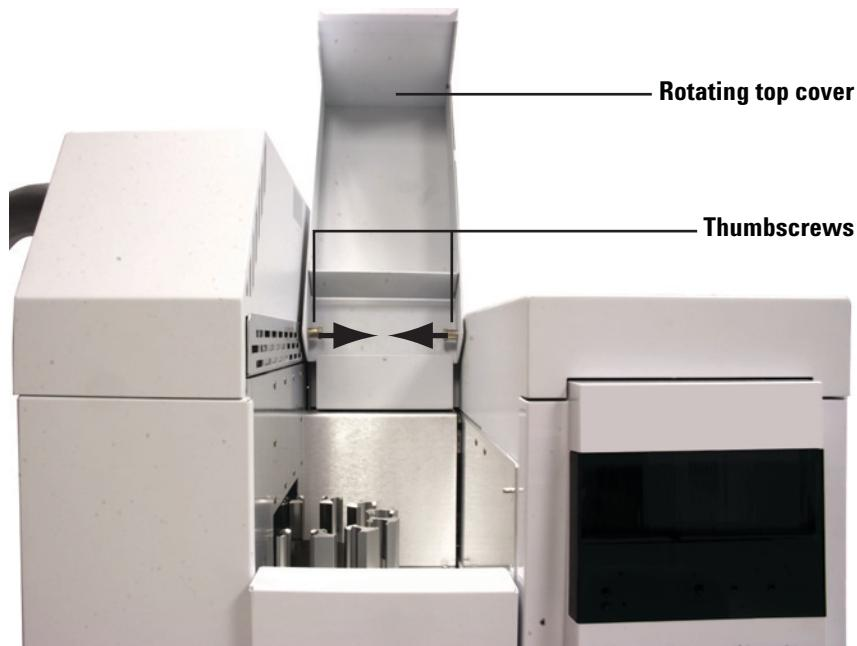

Figure 14 Removing the rotating top cover (12-vial model)
- 3 Unhinge and remove the rotating top cover by pulling one of the two thumbscrews inward while lifting the cover off of the chassis (Figure 14). Once the thumbscrew disconnects, repeat the same action for the second thumbscrew.